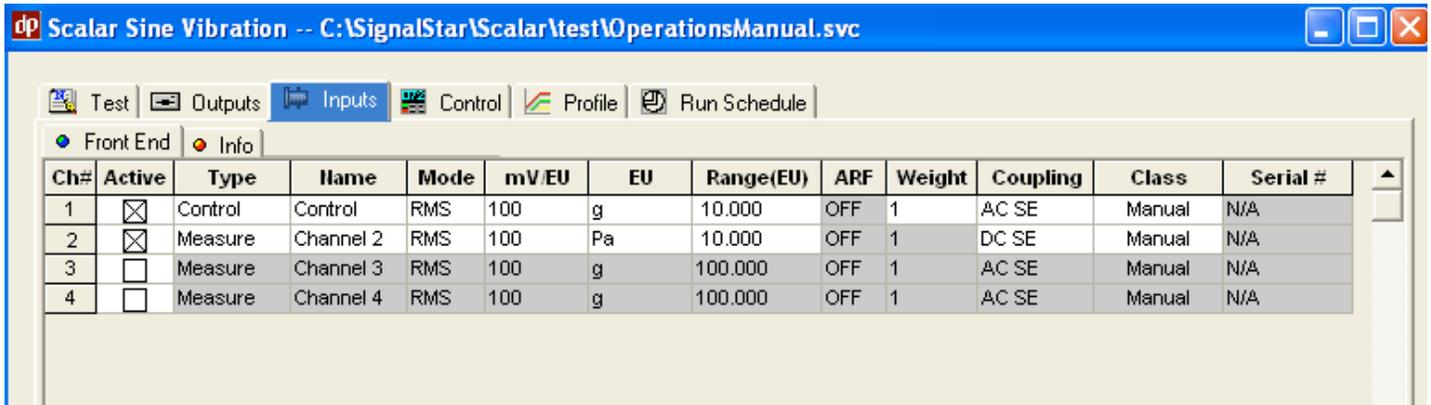

Figure 4-10: Screenshot of the Inputs portion of the Test Setup menu
- 9) Click the “INPUTS” tab in the Signal Star Scalar “TEST SETUP” window. Make sure only channel 1 and 2 have an X in them. On Channel 1 make sure the “EU” is “g” and “Range EU” is set to “10”. On channel 2 the “EU” should be set to Pa, “Range EU” should be set to “10” and “Coupling” should be set to “DC SE”. See Figure 4-10.